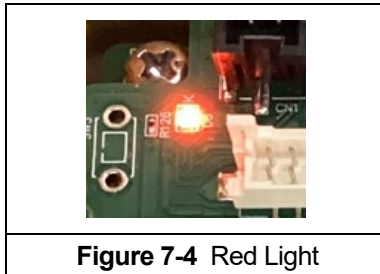

Figure 7-4 Red Light
- Indication during an error - During an error, the LED blinks in orange or red. (See **Figure 7-4**)